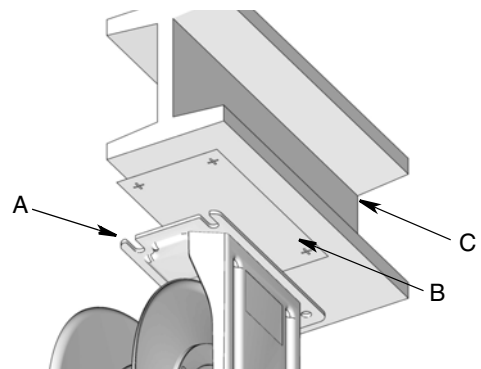

FIG. 9
2. Use the mounting template (FIG. 9 - B) to lay out the position of the mounting holes before you drill
3. Drill mounting holes in the I-Beam (C) (FIG. 9).